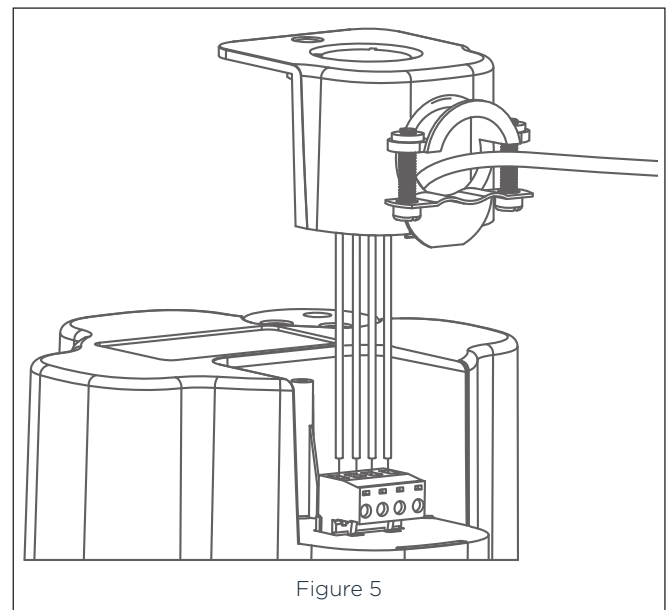

Figure 5
3. Once all the wires are terminated. Plug the black Euroblock connector into the back of the speaker (see Figure 5).